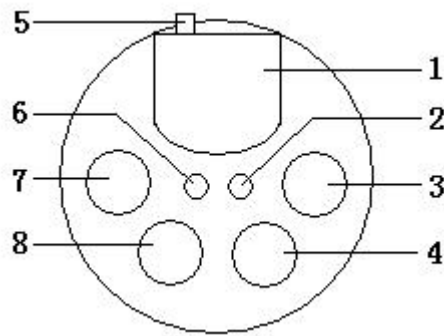

Figure 3
- (1) cooling fan
- (2) fuse box
- (3) host terminal control cable outlet
- (4) AC power outlet
- (5) water bath end control cable socket
- 3 bath cover map (Figure 3)